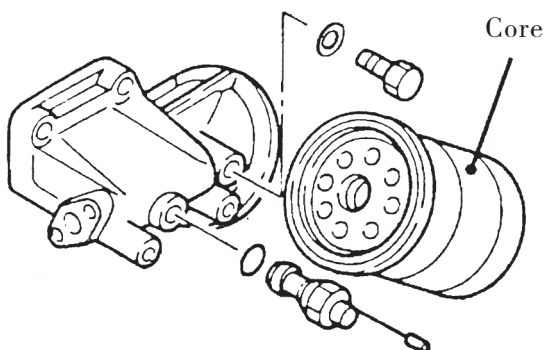

Fig. 1.7
1.3.3 For the machine oil filter, See Fig. 1.7.